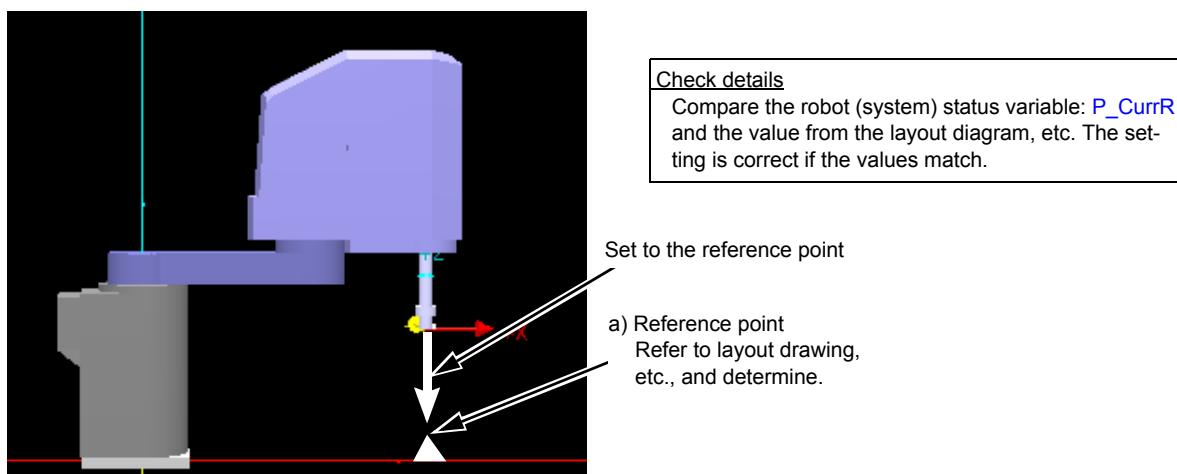

Fig.5-26:Checking the setting for calibration between robots
- 1) Looking at the system layout drawing, etc., set one reference point for each robot. (Fig. 5-26 a) (Hereinafter, reference point)